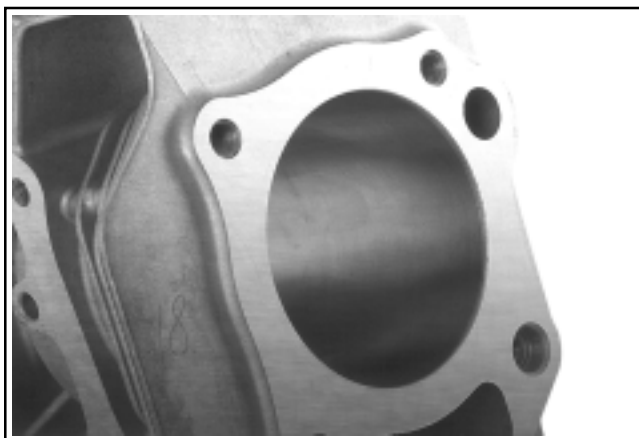

Figure 10-7. Cylinder Bore Crosshatch after Honing.
3. When the bore is within **0.064 mm (0.0025 in.)** of desired size, remove the coarse stones and replace with burnishing stones. Continue with the burnishing stones until within **0.013 mm (0.0005 in.)** of desired size and then use finish stones (220-280 grit) and polish to final size. A crosshatch should be observed if honing is done correctly. The crosshatch should intersect at approximately 20° off the horizontal. Too flat an angle could cause the rings to skip and wear excessively; too steep an angle will result in high oil consumption. See Figure 10-7.